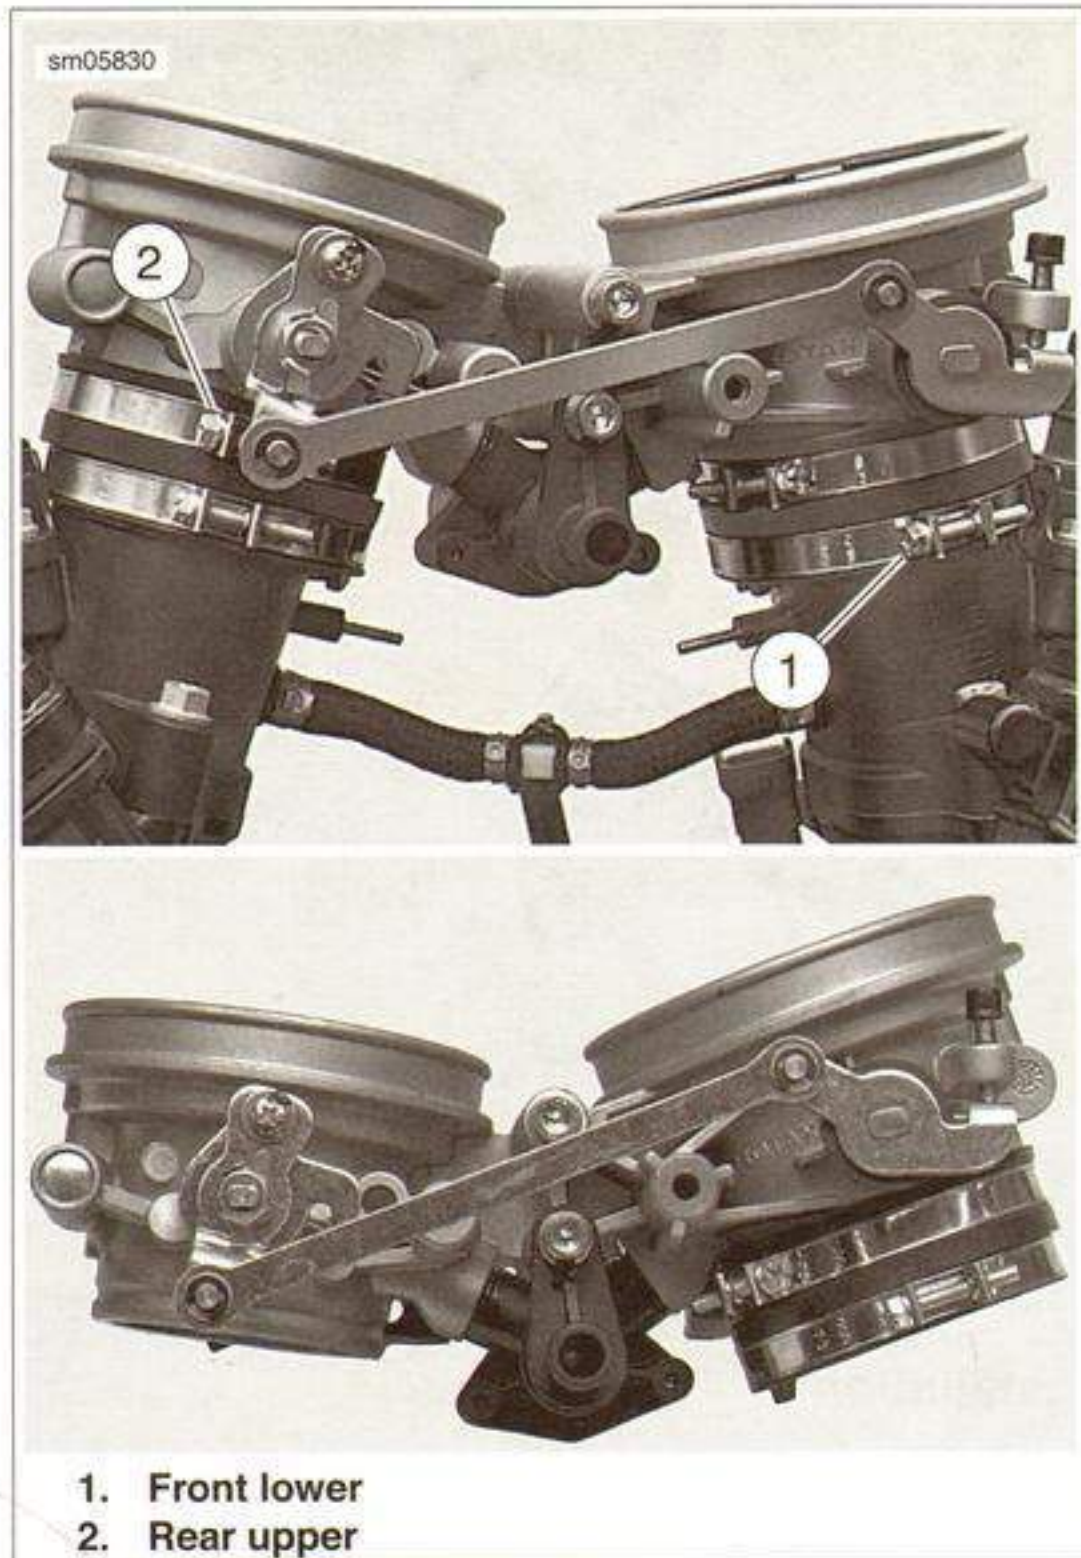
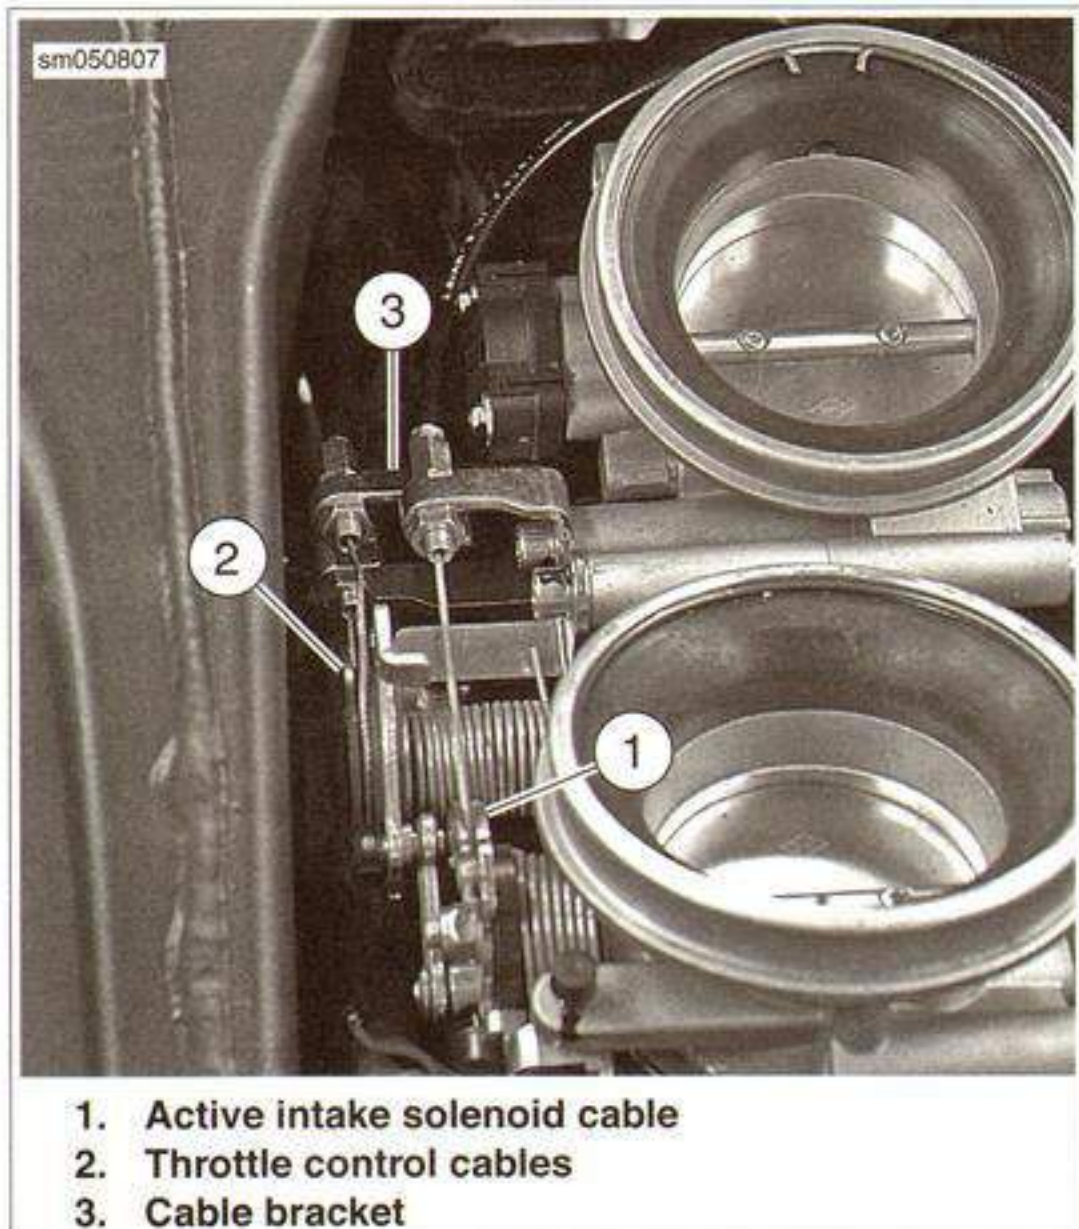

Figure 4-36. Loosen Hose Clamps to Remove Throttle Body (IAC hose removed)
Figure 4-35. Throttle Body Cable Connections
6. See Figure 4-35. Remove the solenoid cable (1). See 4.6 ACTIVE INTAKE.
7. Remove the barrels of the throttle control cables (2) from the throttle cam. See 4.4 THROTTLE CONTROL.
8. Remove the cables from the throttle cable bracket (3).
9. See Figure 4-36. Loosen the intake neck clamps:
- a. Loosen the lower front clamp (1).
- b. Loosen the upper rear clamp (2).